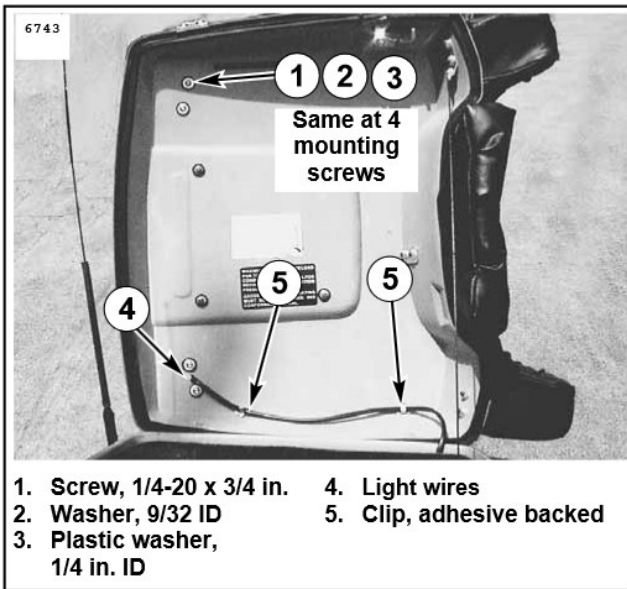

Figure 1. Spoiler Mounting
8. See Figure 1. If spoiler is equipped with combination tail/brake light, route light wires through 3/8 in. hole in tour-Pak lid. Attach spoiler to Tour-Pak lid as shown. Place rubber washer against inside of Tour-Pak lid.
9. See Figure 1. Attach the wires to the inside of the Tour-Pak with adhesive backed clips as shown. Route wires out front left corner of Tour-Pak bottom and support wires inside Tour-Pak bottom with the remaining adhesive backed clips as needed. Wires will exit out the bottom of the Tour-Pak through the antenna cable grommet.